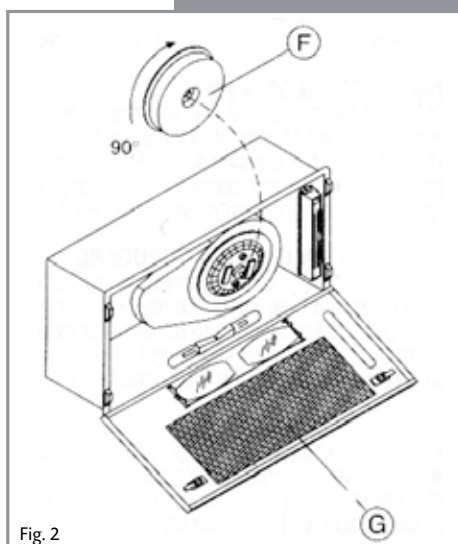

Fig. 2
- 3. Connect the exhaust pipe to the duct adapter (B in figure 2.) and locate on the extractor, as indicated. We recommend the use of 120mm (5") ducting, although 100mm can be used with the use of a 120-100mm converter; Note that this will affect performance.